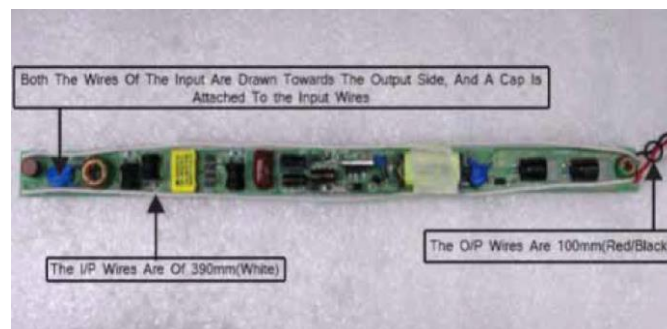

Fig. 2.18: Driver Unit
4. Place the tube light driver into the oven with the sleeve for protection as shown in Figure 2.18.